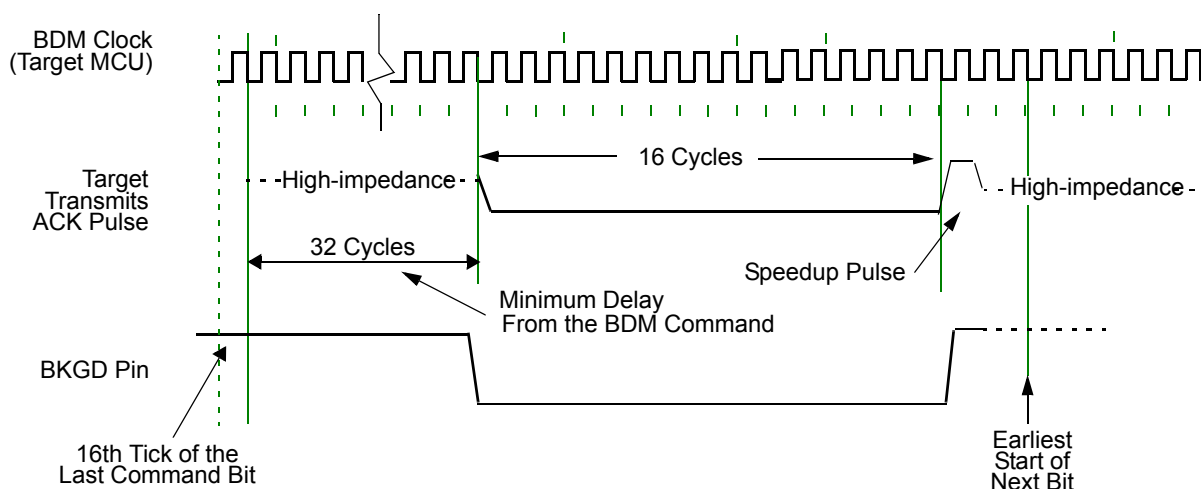

Figure 65. Target Acknowledge Pulse (ACK)
The hardware handshake protocol signals to the host controller when an issued command was successfully executed by the target. This protocol is implemented by a 16 serial clock cycle low pulse followed by a brief speedup pulse in the BKGD pin. This pulse is generated by the target MCU when a command, issued by the host, has been successfully executed (see Figure 65). This pulse is referred to as the ACK pulse. After the ACK pulse has finished: the host can start the bit retrieval if the last issued command was a read command, or start a new command if the last command was a write command or a control command (BACKGROUND, GO, GO\_UNTIL(169) or TRACE1). The ACK pulse is not issued earlier than 32 serial clock cycles after the BDM command was issued. The end of the BDM command is assumed to be the 16th tick of the last bit. This minimum delay assures enough time for the host to perceive the ACK pulse. Note also that, there is no upper limit for the delay between the command and the related ACK pulse, since the command execution depends upon the CPU bus, which in some cases could be very slow due to long accesses taking place. This protocol allows a great flexibility for the POD designers, since it does not rely on any accurate time measurement or short response time to any event in the serial communication.
Differently from the normal bit transfer (where the host initiates the transmission), the serial interface ACK handshake pulse is initiated by the target MCU by issuing a negative edge in the BKGD pin. The hardware handshake protocol in Figure 65 specifies the timing when the BKGD pin is being driven, so the host should follow this timing constraint in order to avoid the risk of an electrical conflict in the BKGD pin.